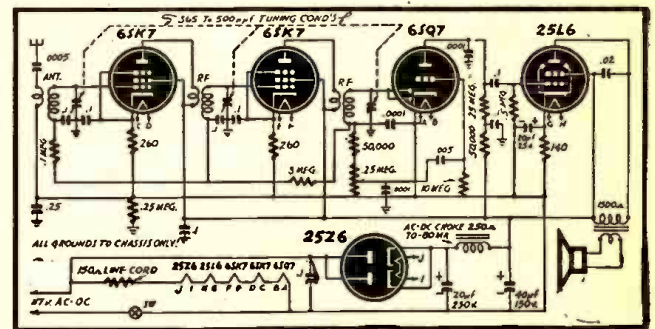

Fig. 3—T. R. F. receiver with two radio-frequency stages.
**A.** This diagram has been designed to meet your needs as specified. Any standard tuning condenser may be used. For single-dial control all sections should be alike. Antenna and R.F. coils may be standard or plug-in type. See Fig. 3.
wire down to the top of the cabinets, then attaching a small round piece of wood to the other end of the wire (See Fig. 3).